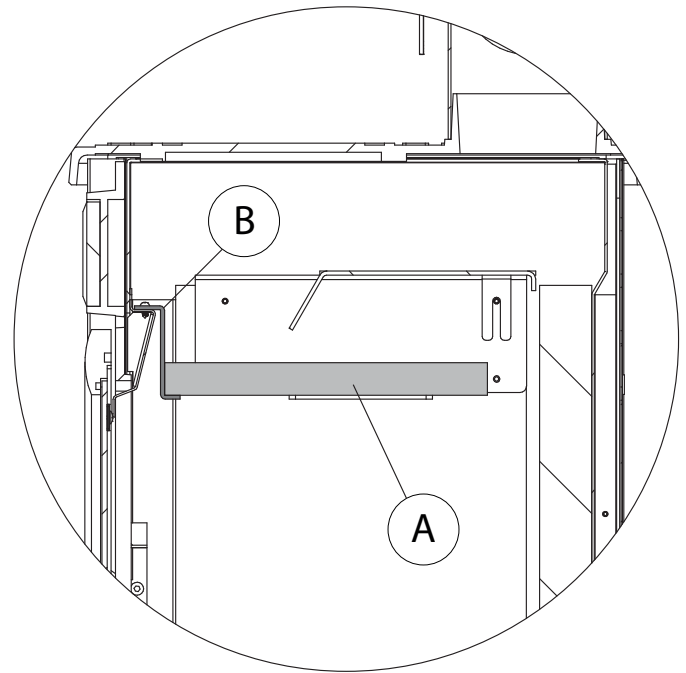

Fig. 6.2c
- check that the internal firebrick (A) placed on the top of the combustion chamber is completely against the support (B) (**Fig. 6.2c**);